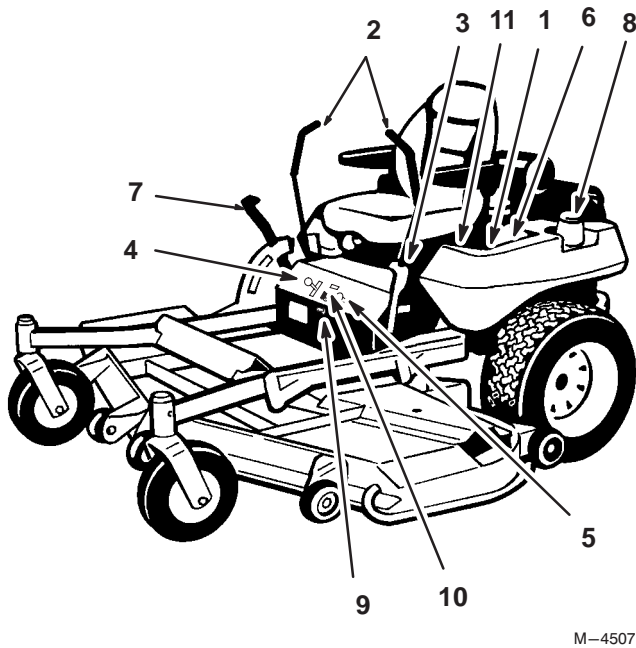

Figure 13
Become familiar with all the controls (Fig. 13) before you start the engine and operate the machine.
1. Move the motion control levers (Fig. 13) out to the neutral lock position.